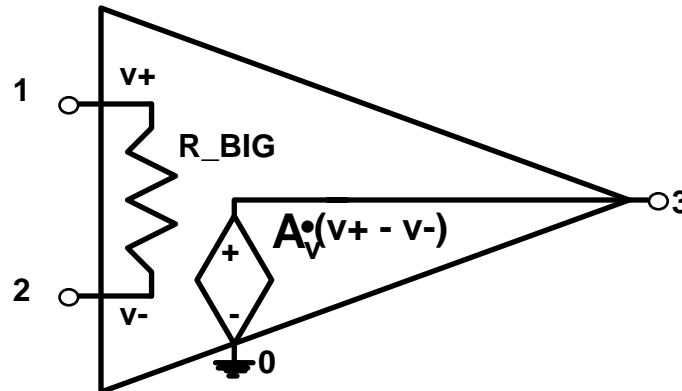

Figure 9.2
(II) A simple "ideal" model of an op amp can be implemented in SPICE using a voltage-controlled voltage source (Figure 9.2).
The voltage-controlled voltage source (VCVS) is indicated in SPICE by using 'E' as the first letter of the source name. With the nodes labeled as in Figure 9.2: